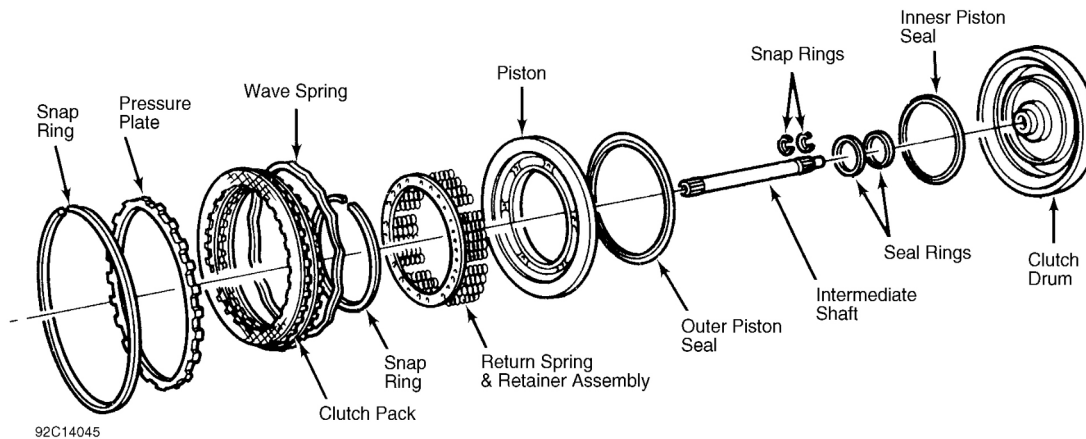

Fig. 5: Exploded View of Intermediate Clutch Assembly
1. Remove intermediate shaft snap ring. Pull shaft from intermediate clutch drum. If damaged, remove snap ring from intermediate shaft. See **Fig. 5**.